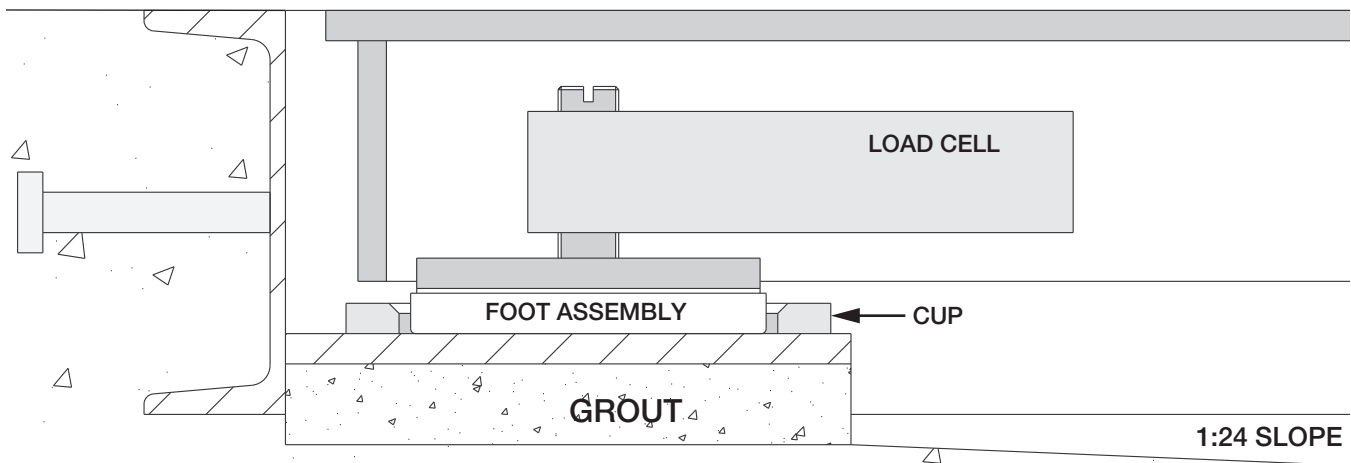

Figure 2-6. Section Showing Installed RoughDeck and Pit Frame
*Example: The scale shown in Figure 2-6 on page 5 could have an access ramp on the left side as shown, and/or on the right side. The top and bottom sides, will not accept the ramp mounting plates.*